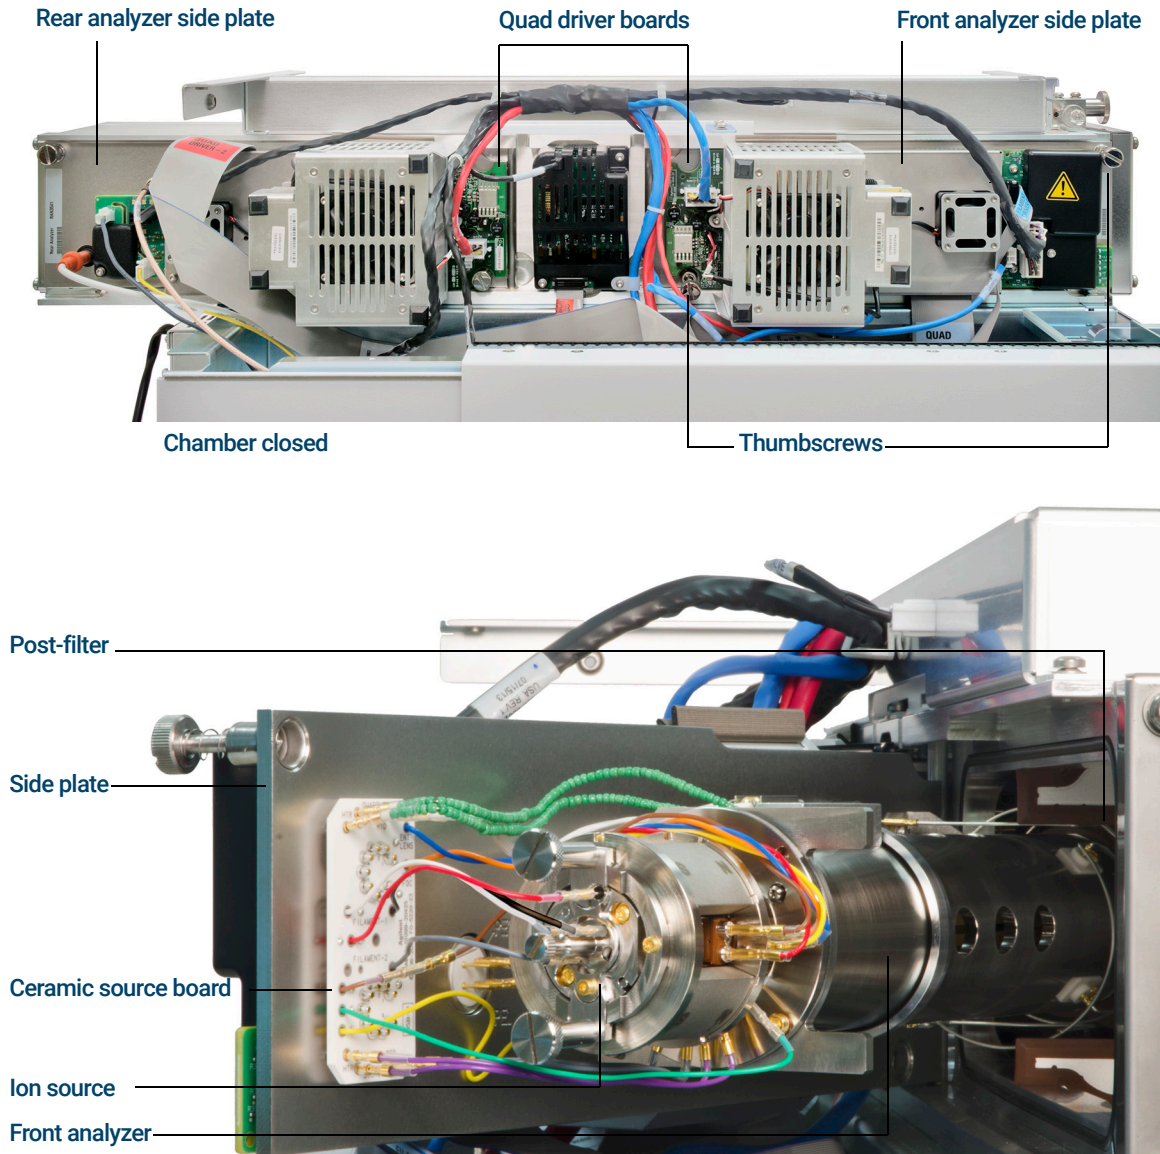

Figure 45. The front analyzer chamber on a 7010C MS
- 3 Loosen the front analyzer side plate thumbscrews if they are fastened. (See Figure 45 on page 159.)
- 4 *Gently* swing the side plate out. (See Figure 45 on page 159.)